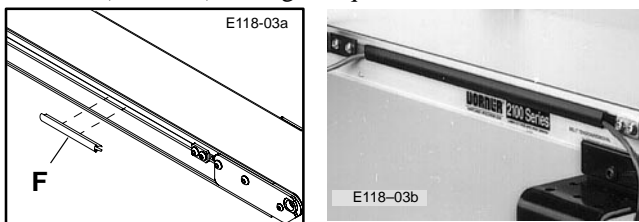
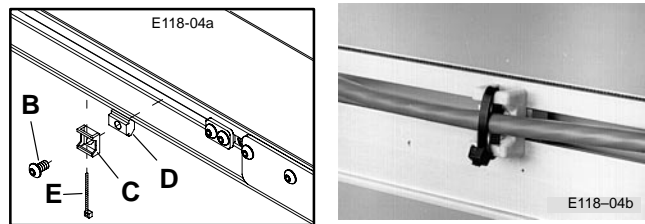
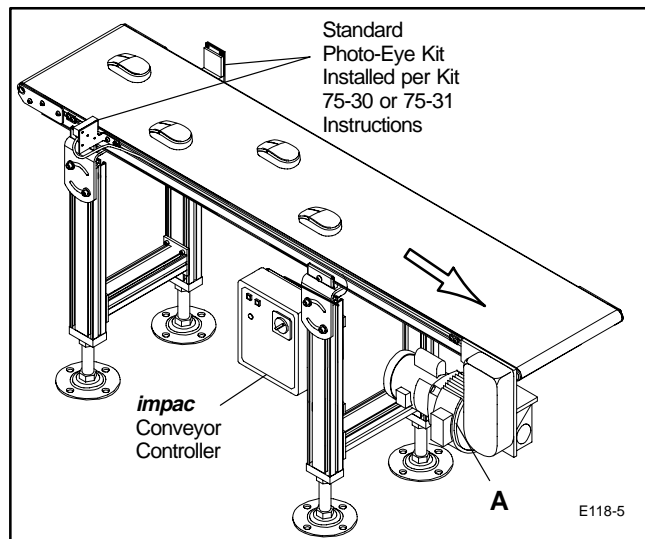

Figure 3: T-slot Cover Strip Mounting Detail
Figure 4: Zip Tie Mounting Detail
Figure 5: Sample Application showing an Electric Clutch/Brake Kit Routing to an *impac* Conveyor Controller
- c. To contain a long run of wiring cable in the conveyor T-slot channel, use several short lengths of T-slot Cover Strips (F of Figure 3). Or, to completely contain a long run of cable, purchase T-slot Cover Strip (645656P) at length required.
- d. To route Cable over a previously mounted component or to anchor the Cable, use the Zip Tie Mounts (C) and Single Drop-in T-bars (D), (Figure 4). Secure each Zip Tie Mount with an M6 x 10 mm Button Head Cap Screw (B). Tighten the Screws with the 4 mm Hex Key Wrench (H) provided.
- e. Figure 5 shows a typical example of a clutch/brake kit, Photo-Eye kit and *impac* Conveyor Controller. Use the conveyor and the Support Stand Leg T-slots for routing the cable between the *impac* and the clutch/brake (A). Anchor and protect the cable with both T-slot Cover Strips (F of Figure 3) and Zip Ties (E of Figure 4).